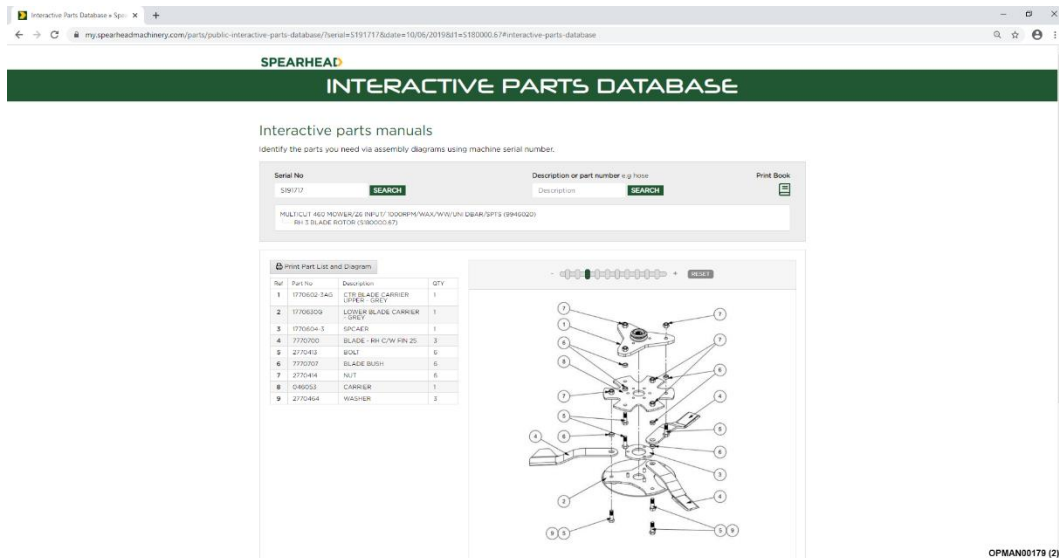

Figure 11.4 – Exploded Parts Breakdown With Bill Of Materials
11.1.1.4 You will finally be presented with a full exploded parts breakdown for that particular assembly, giving part numbers and the quantities required; see Figure 11.4.